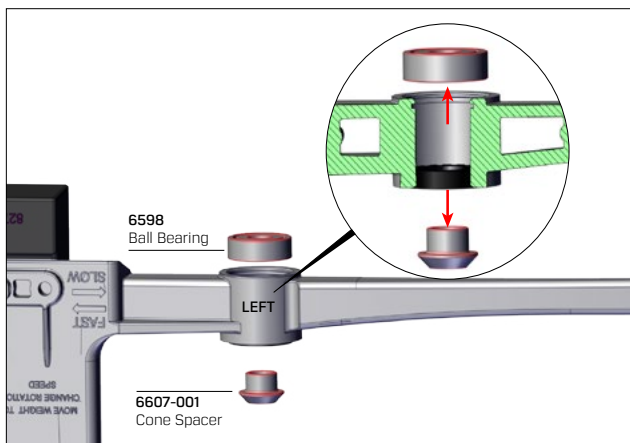

Fig. 7.
- A. Starting with LEFT drive arm hub, remove **#6607-001** cone spacer, and use finger pressure to push out **#6598** ball bearing in the direction shown in Fig. 7. If finger pressure will not remove bearings, use a screwdriver and hammer to lightly tap